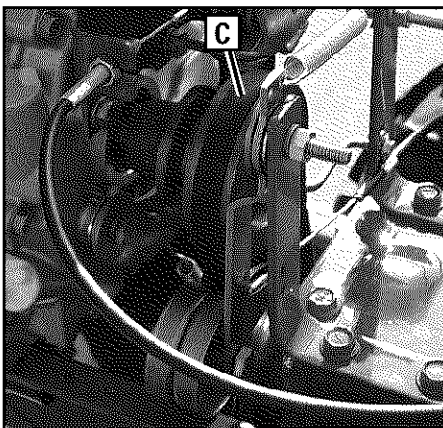

Figure 5-8: Forward clutch belt (C). (Left-side view, no belt cover.)
Tension on a new forward clutch belt (C, Figure 5-8) should be checked after the first two (2) hours of operation and after every ten (10) hours of operation.